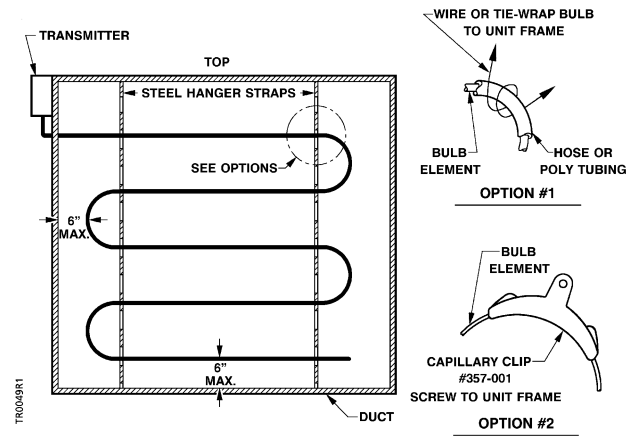

Figure 4. Mounting the Averaging Bulb in Large Ducts.
Figure 4 shows two methods for mounting the Remote Averaging Bulb.
2. Attach the bulb to the strap hangers with wire ties as shown in Figure 4 or with plastic tie wraps.